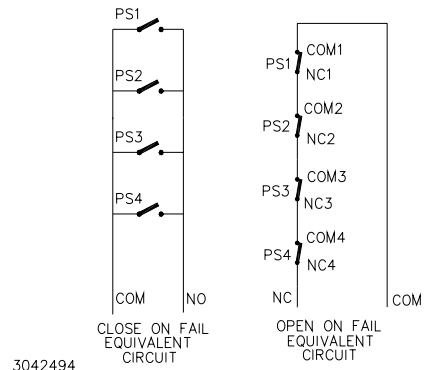
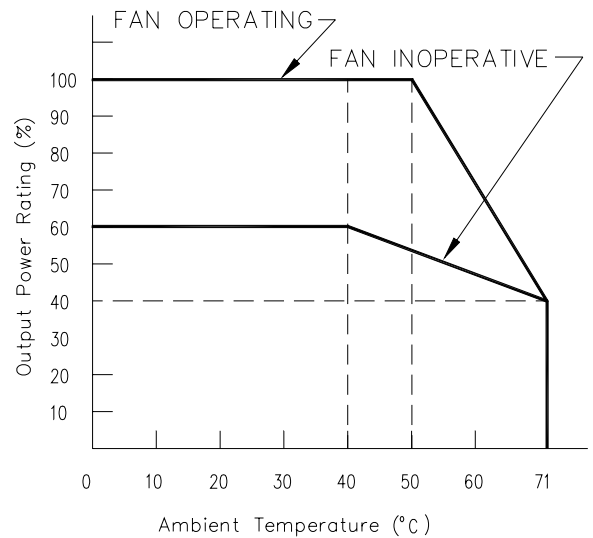
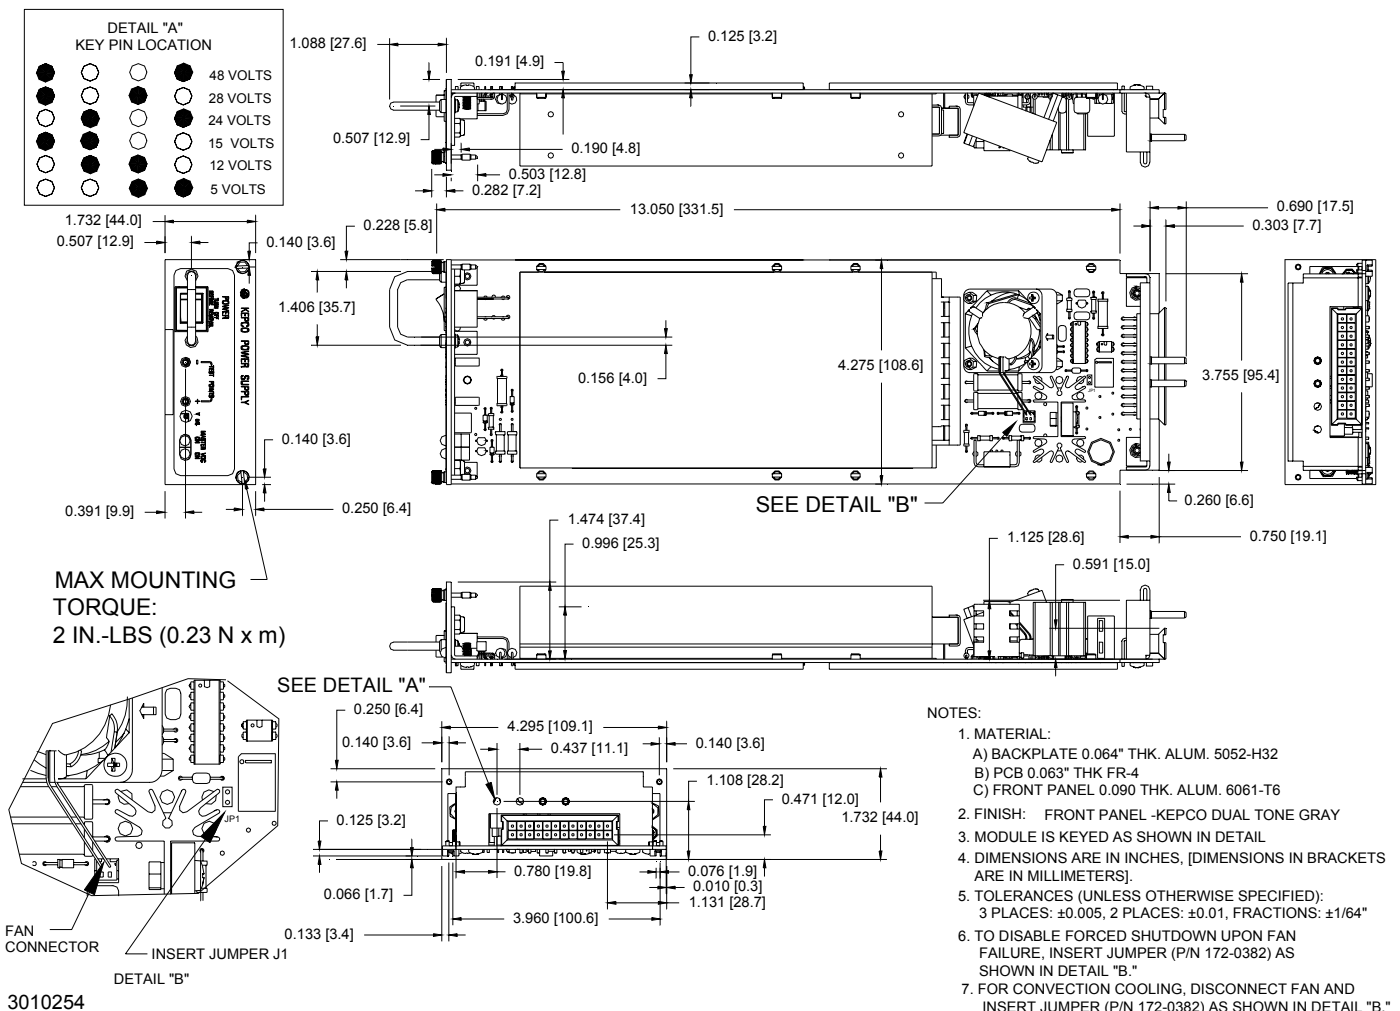

FIGURE 3. TYPICAL ALARM CIRCUIT DIAGRAMS
FIGURE 4. % OUTPUT POWER RATING VS. AMBIENT TEMPERATURE
FIGURE 5. HSF-1U POWER SUPPLY OUTLINE DRAWING
- (1) Derates same as Output Power.
(2) See power derating curve, Figure 4.
ALARM: The Alarm NC (normally closed) - Open on Failure and Alarm NO (normally open) - Close on Failure lines are relay contacts referenced to Alarm Common. If the unit fails, the path between Alarm NC - Open on Failure and Alarm Common opens, the path between Alarm NO - Close on Fail and Alarm Common is a short circuit. Figure 3 illustrates typical Close on Fail and Open on Fail circuits to provide an alarm for a failure of a single unit fail; refer to RA 19-1U manual for complete information regarding other configurations. Units are shipped so that the alarm will trip and shutdown will occur upon overvoltage, open sense line and fan failure (fan failure shutdown can be disabled, see COOLING and Figure 5). The alarm will also trip upon undervoltage, however shutdown may not occur, depending on the load After shutdown occurs, 60 second delay (minimum) is required before turning the unit on again.
Forced shutdown upon fan failure can be disabled by installing a jumper, Kepco P/N 172-0382 (Digikey P/N A26231-N) as shown in Figure 5. This allows the unit to continue to operate with the fan inoperative (see Figure 4 for safe operating conditions); the alarm signals noted above will report an alarm condition, and the VDC ON indicator will either light red (fan supply voltage missing) or flicker between red and green (mechanical failure). With the jumper installed the user is responsible for either reducing the load to within the specifications given in Figure 4, or shutting down the unit using the alarm signals provided.
COOLING: Forced convection, ball-bearing fans, life expectancy 50,000+ hours. Natural convection can be used if the load does not exceed 60% of max. (see Figure 4). Simply disconnect the fan and install jumper J1 (see Figure 5); the alarm signals described above are disabled and VDC ON lights red; overvoltage and open sense line conditions still force unit shutdown. Contact Kepco's Applications Engineering for full-featured natural convection cooled units.
OPERATING TEMPERATURE: See Figure 4.
DIMENSIONS: See Figure 5.